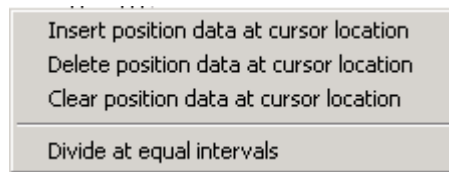

Fig. 5.6 Pop-up Menu
- \* The equal division function can also be implemented from the pop-up menu (Fig. 5.6) displayed by right-clicking the position data input area.